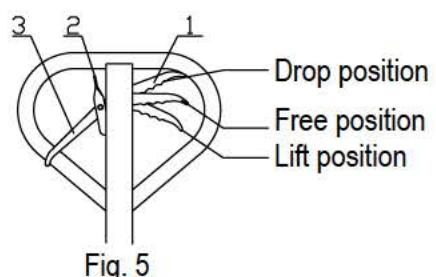

Fig. 5
- 4.1 After the truck is assembled, try to rock the hand grip and operate different positions of control handle knob 1 to examine the lifting, free position and dropping and check that whether the different positions are normal or not. See fig 5.
- 5.4 See fig 5, when hand knob 1 is placed on the free position, the truck will travel. At this time, if you rock the hand grip, the truck will neither lift nor drop. Then, you can use the truck to move the cargo.
- 5.5 See fig 5, when the hand knob 1 is placed on the drop position, truck forks will drop. At this time, the truck forks will drop automatically.
- 5.6 See fig 5, when the hand knob 3 is placed blow, the truck will be in a state of free walking.
- 5.7 See fig 5, when the hand knob 3 is placed above, the truck will be in a state of brake.
- 5.8 See fig 5, hand knob 2 is used for release brake.